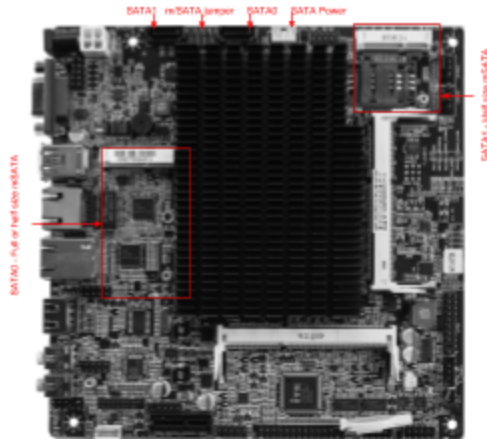

Figure 3: SATA and mSATA
1. Install mSATA SSD to the mSATA slot indicated on Figure 3.
2. Install SATA hard drive or SSD by connecting the SATA power and data cable to the connectors indicated on Figure 3.